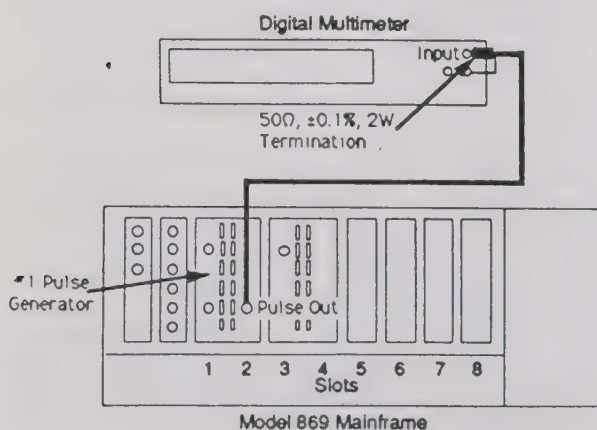

Figure 2-11. Pulse Accuracy Test Hookup
1. Interconnect the required test equipment as shown in figure 2-11.